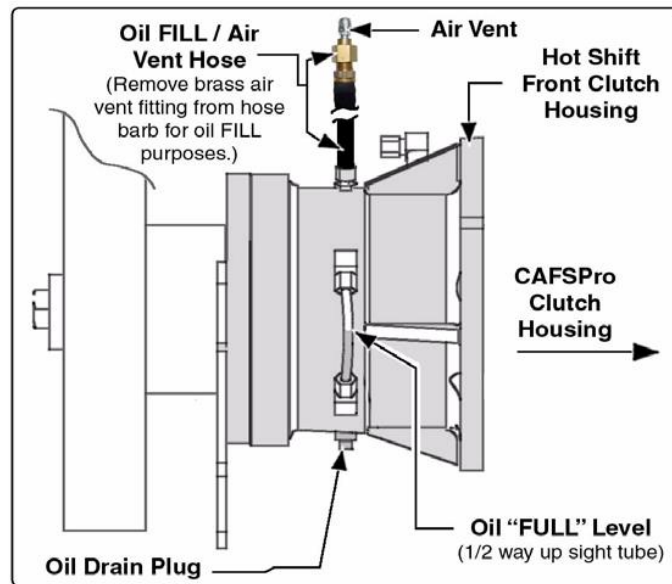

Figure 48: Hot Shift Operation
**NOTE:** The hot shift clutch oil should be changed every 100 hours of operation or when the apparatus engine oil is changed. (See Figure 48)
3. Remove the brass fitting, containing the air vent, from the fill tube hose barb. (See Figure 48)
4. Using a squeeze bottle or funnel, refill the housing via the hose barbed fitting and fill hose with Dexron III or Mercon ATF or equal, **while watching the oil level sight gauge**. The housing holds approximately twelve (12) ounces (0.4 liters). The proper oil level is when the oil level sight tube is filled half way between the top and bottom.